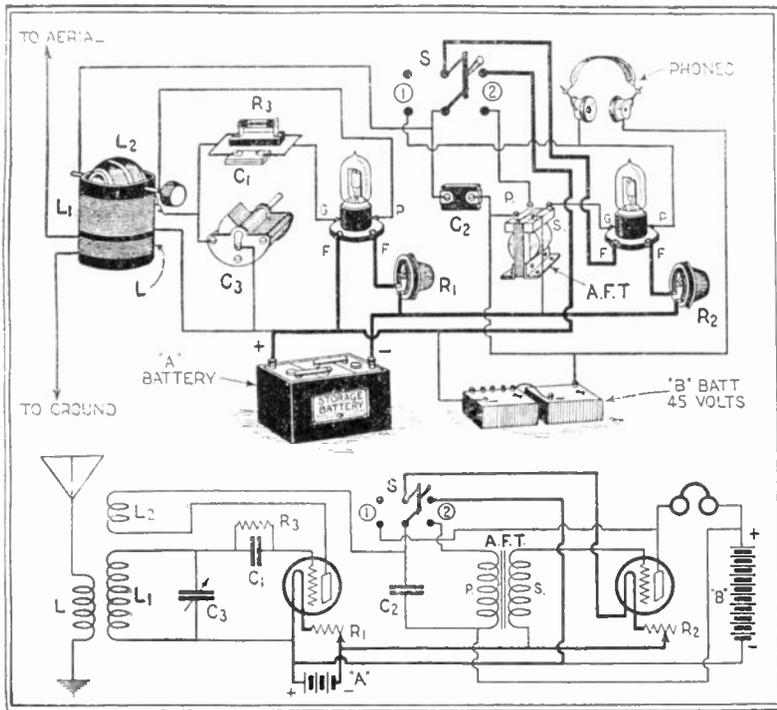

Fig. 59A. With the circuit diagram shown above, it is possible to employ either one or two tubes and to automatically control the amplifier tube filament.
(59) Q. 1. Albert King, Bronx, N. Y., asks: Kindly show two-circuit diagrams by means of which the following effects can be obtained. (A) Show how two tubes can be hooked up with a single double-pole double-throw switch so that either the regenerative detector tube can be used alone or so that the detector and one stage of audio-frequency amplification can be employed. This should be arranged so that the filament circuit of the audio tube will be automatically extinguished when the detector is being used alone. I do not want to use jacks. (B) Show a standard single coil crystal detector circuit, with one stage of audio-frequency amplification, and a double-pole double-throw switch so arranged that the crystal detector can be used either alone or with the amplifier. In this case the tube need not be extinguished automatically as this will be controlled by a push-pull switch.
A. 1. The two requested circuit diagrams are given in these columns. Referring to Fig. 59A, all of the constants are standard. L, L1 and L2 are a standard three circuit tuner. C has a capacity of .00025 mf., R1 and R2 are rheostats. R3 is a 1 to 5 megohm grid leak, C2 has a capacity of .001 mf. and S is a double-pole double-throw switch. When the switch is thrown to position 1, the detector is used alone and when in position 2, both tubes are employed and the filament of the second tube is lighted.